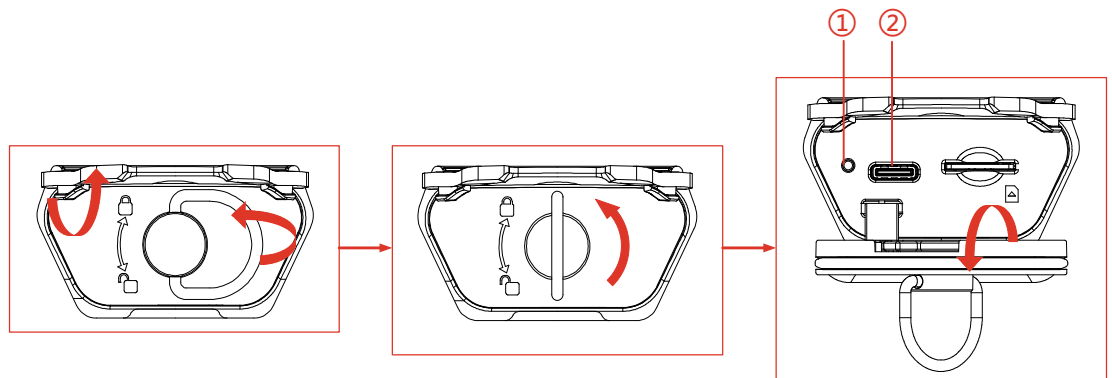

Figure 3-3 Show Type-C Interface
1. Connect the camera to PC with a USB-A to USB-C cable. See the interface in Figure 3-3 for instructions.